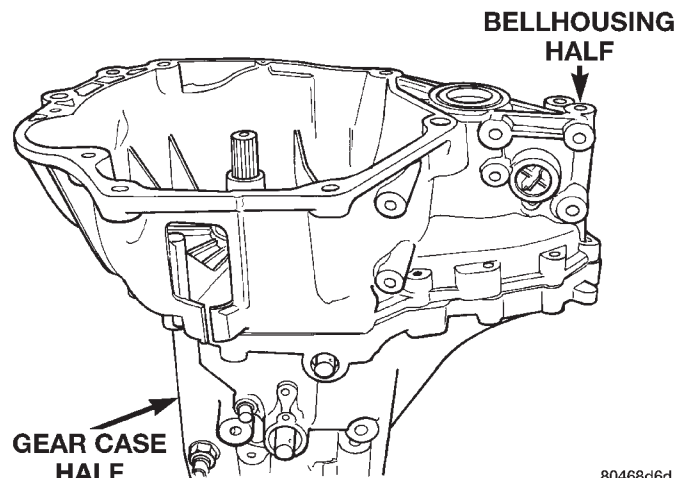
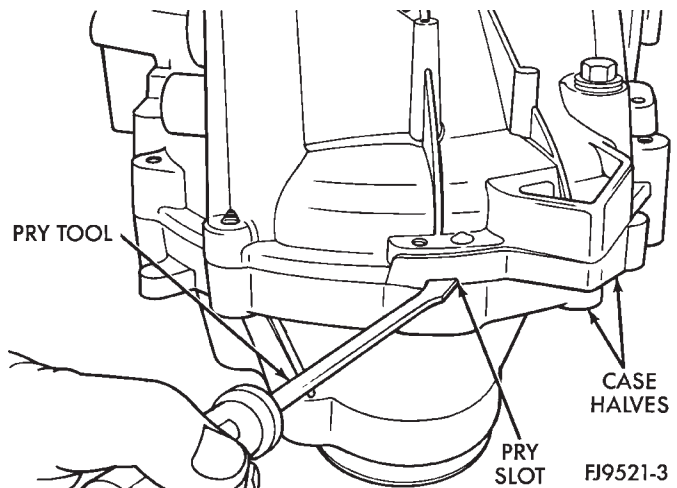

Fig. 40 Transaxle Case Halves
Fig. 41 Separate Case Halves
(3) Place two screwdrivers into the slots provided in the case halves near the dowels (Fig. 40). Separate the case halves (Fig. 41).